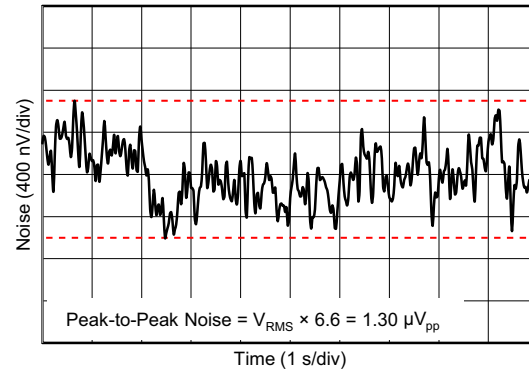

Figure 5-22. 0.1Hz to 10Hz Noise
0.1Hz to 10Hz Noise	<a href="#">Figure 5-22</a>